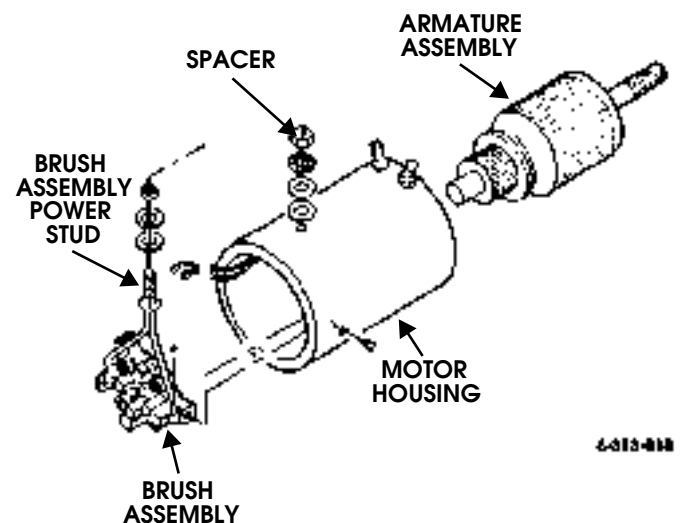

Figure 9-181: Brush Assembly and Armature Assembly
8. Remove motor housing from drum support and armature assembly from brush assembly (Figure 9-181).
1. Install washer, insulator, and spacer on brush assembly power stud (Figure 9-181).